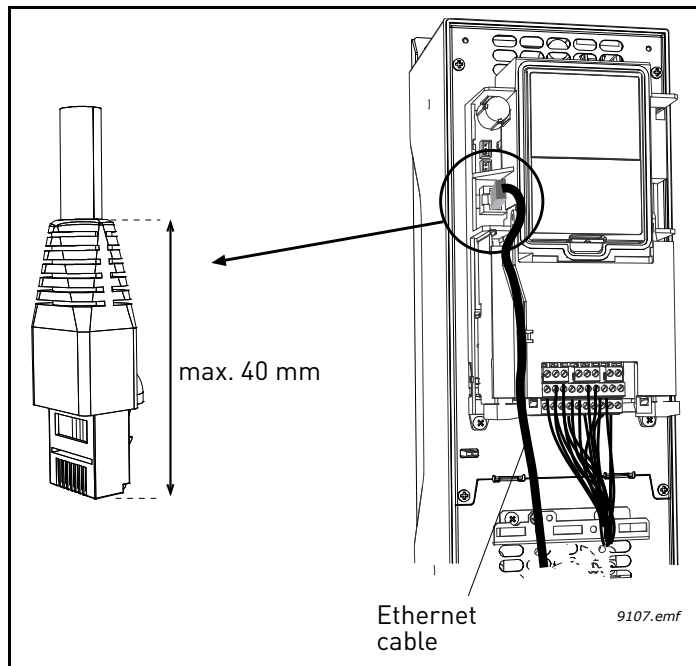

Figure 52.
- 1 Connect the Ethernet cable (see specification on page 59) to its terminal and run the cable through the conduit as shown in Figure 52.
NOTE: Pay attention that the length of the connector does not exceed 40 mm. See Figure 52.